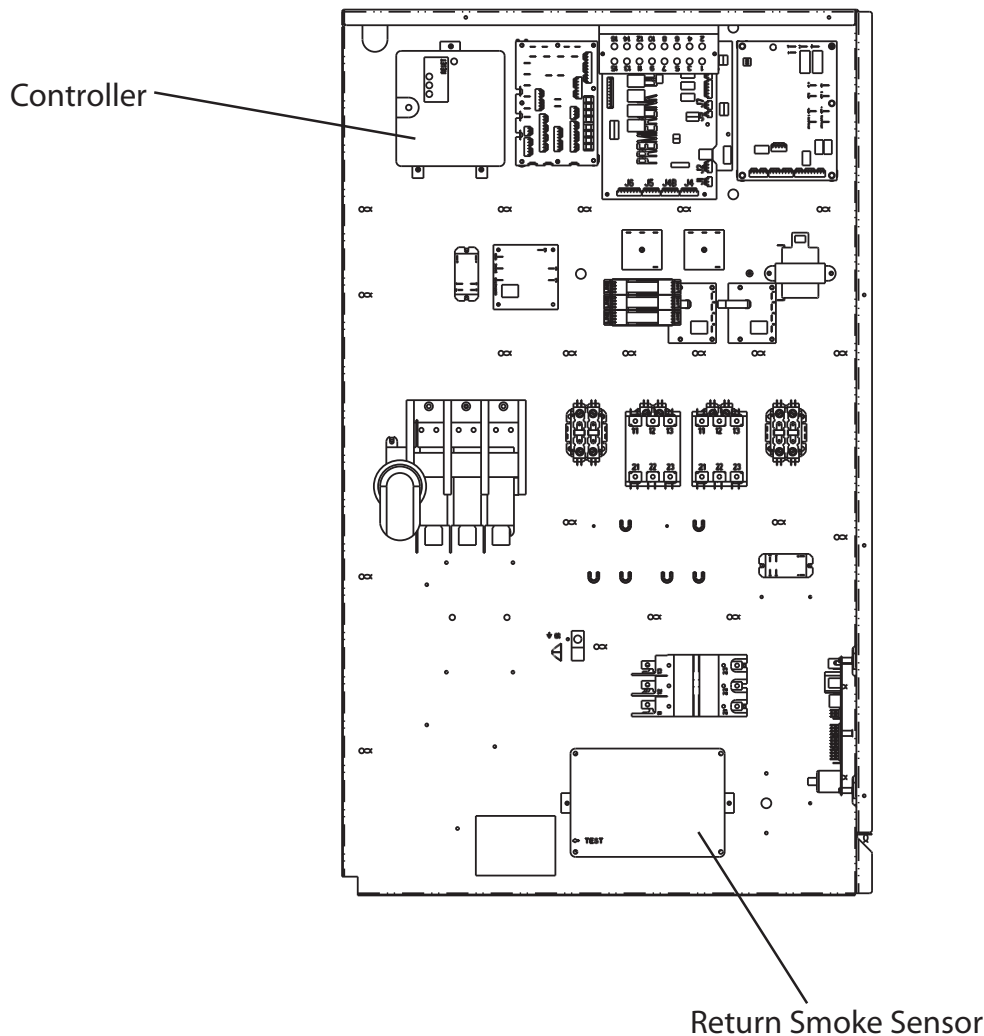

Fig. 5 - Return Smoke Sensor
The smoke detector comprises a controller and one or two sensors. Its primary function is to shut down the rooftop unit in order to prevent smoke from circulating throughout the building. It is not to be used as a life saving device. When these smoke detectors are factory installed on the units listed above, no additional sampling tubes are required to be field installed. (See Fig. 5.)
7. Complete the wiring of the harness into the unit control terminal board as shown in wiring diagram. (See Fig. 5.)